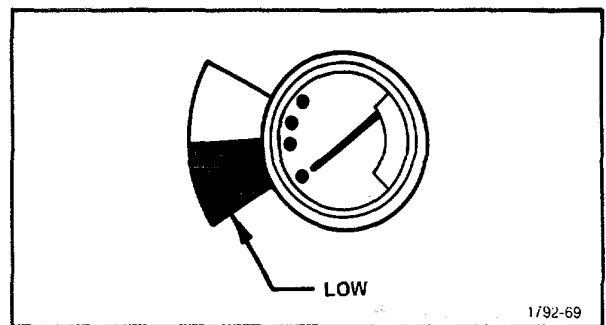

Figure 5-17. Application of sealant to FOCUS and INTENSITY controls.
17. Install the FOCUS and INTENSITY controls (see Fig. 5-17)